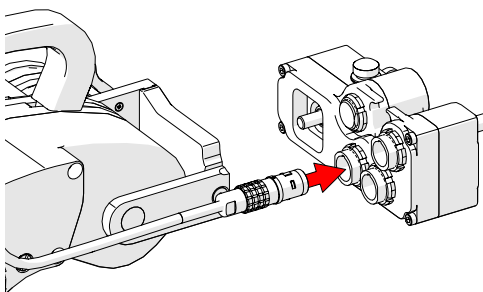

Fig. 85 - Connect to umbilical
1. Connect the umbilical by first plugging in the right drive module's connector (Fig. 85).